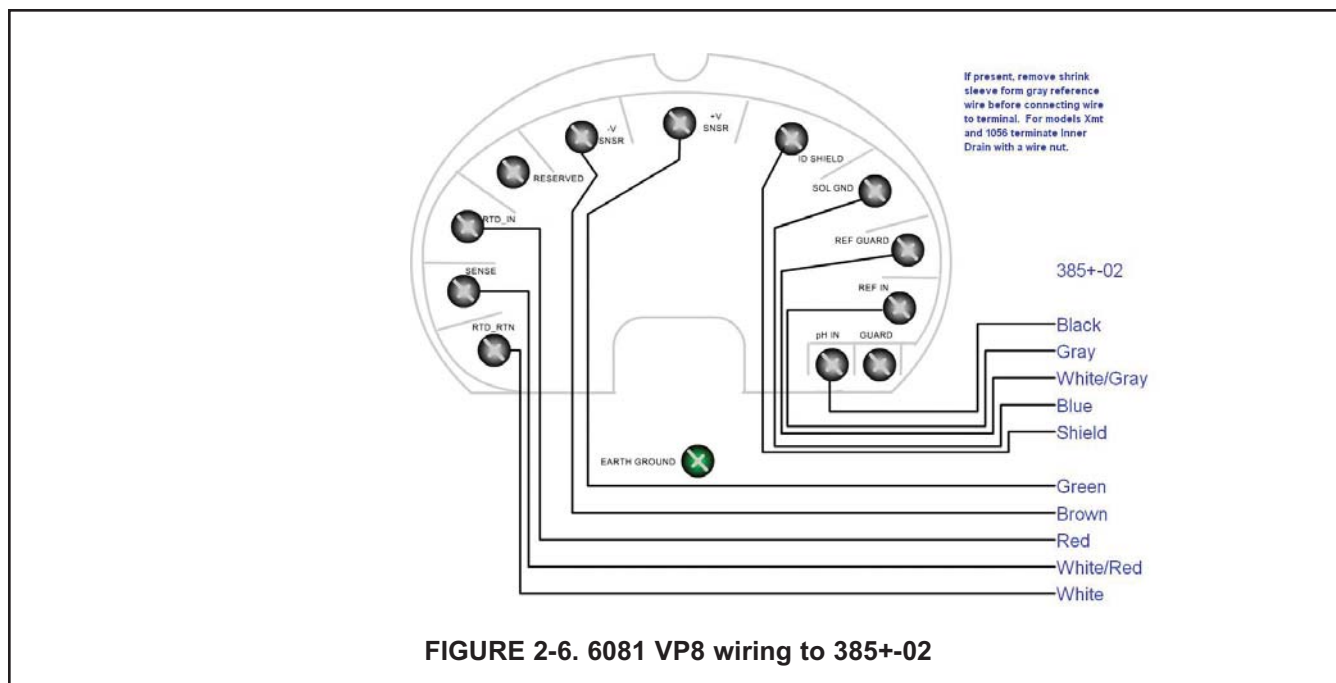

FIGURE 2-6. 6081 VP8 wiring to 385+-02
2.3 ELECTRICAL INSTALLATION. Make electrical connections as shown on Figures 2-6 through 2-14 using the following guidelines: